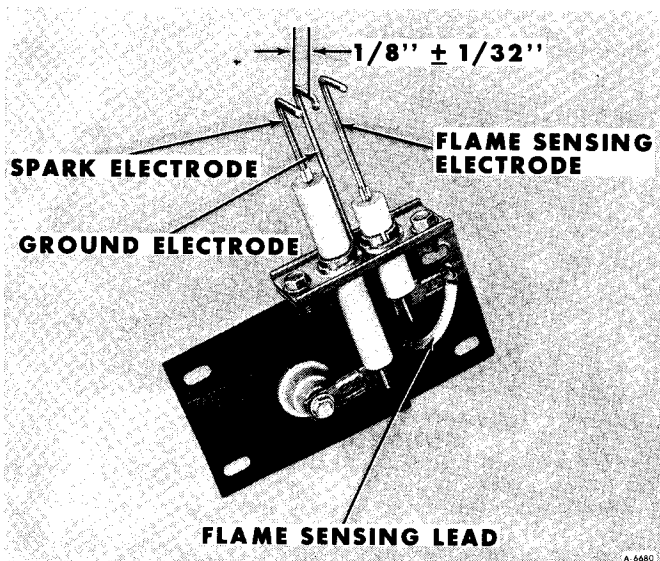

Figure 21—Spark Electrode Assembly
**NOTE:** Before installing spark electrode assembly, check the spark gap. The gap between the spark electrode and ground electrode should be  $1/8'' \pm 1/32''$  (figure 21).